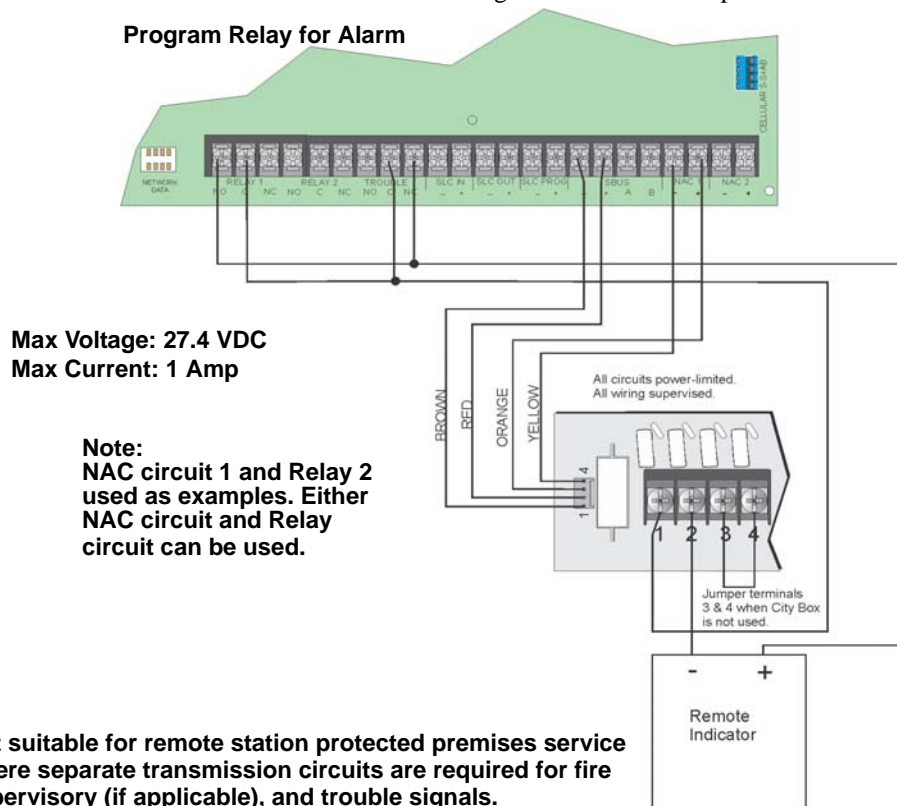

Figure 4-49 Polarity Reversal Connection Using the 5220 Module
2. Wire the 5220 to the control panel using the four-wire pigtail provided as shown in Figure 4-49. This diagram also shows how to connect the 5220 to the remote indicator. Do not install an EOL resistor in the terminals of the NAC circuit used for this application.